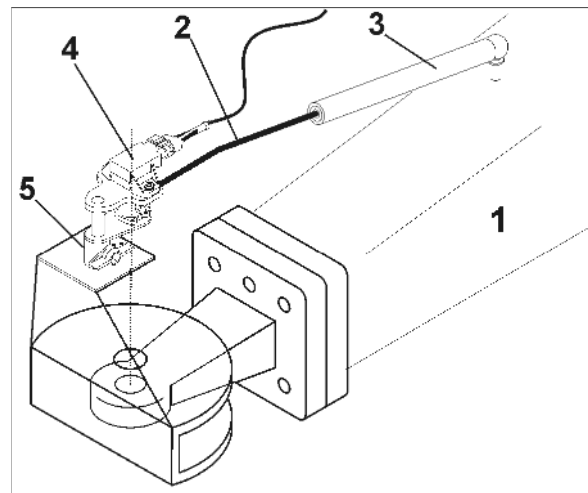

Fig. 62
TrailTron tracking control for automatic, virtually 100% precise tracking captures the position of the angle of the drawbar (Fig. 62/1) to determine the direction of travel of the tractor.
1. Insert the rod (Fig. 62/2) into the plastic bush (Fig. 62/3) stecken.
2. Insert the position encoder (Fig. 62/4) into the holder (Fig. 62/5).